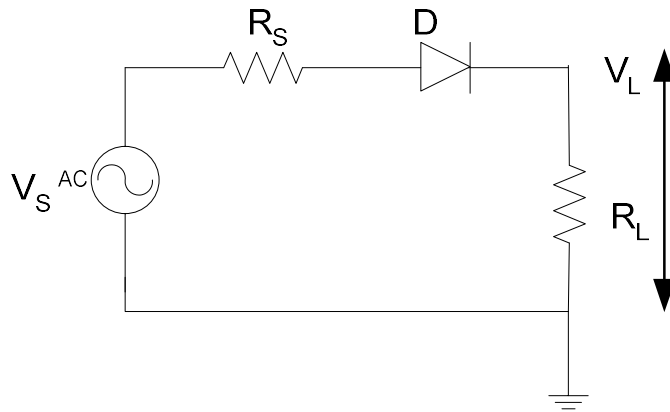

Fig. 3.7 Half-wave rectifier
1. Construct the circuit as shown in Fig. 3.7. Adjust  $V_S$  to 15 Vpp sine wave at 1 kHz.